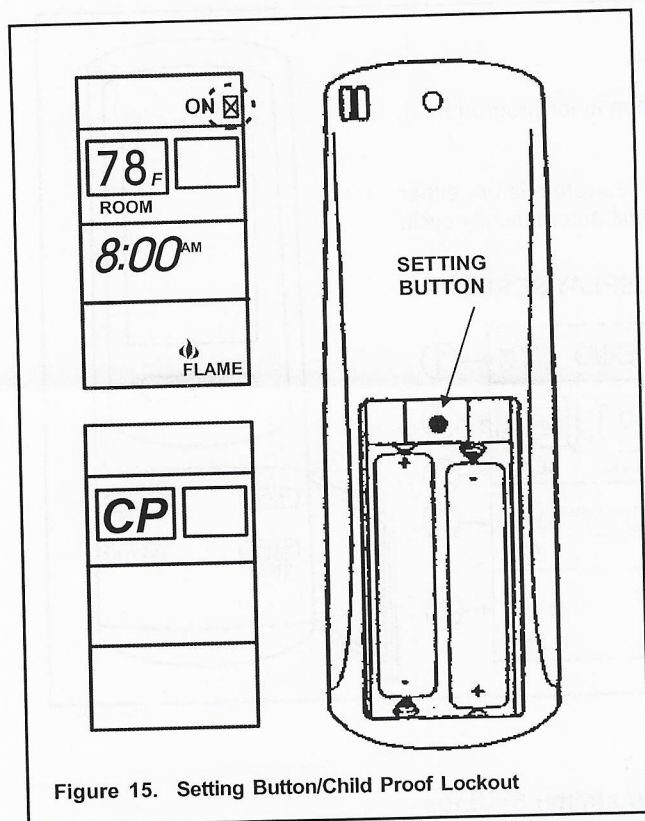

Figure 15. Setting Button/Child Proof Lockout
1. Remove the battery cover on the back of the transmitter and locate the "setting button" at the top center of battery compartment (see Figure 15).
1. Press and hold in the "setting button" for 5 seconds. The letters CP will display on the LCD screen (see Figure 15). This prevents the activation of fireplace. When any function button is pressed ON/OFF etc. the letter CP will display on the LCD screen.